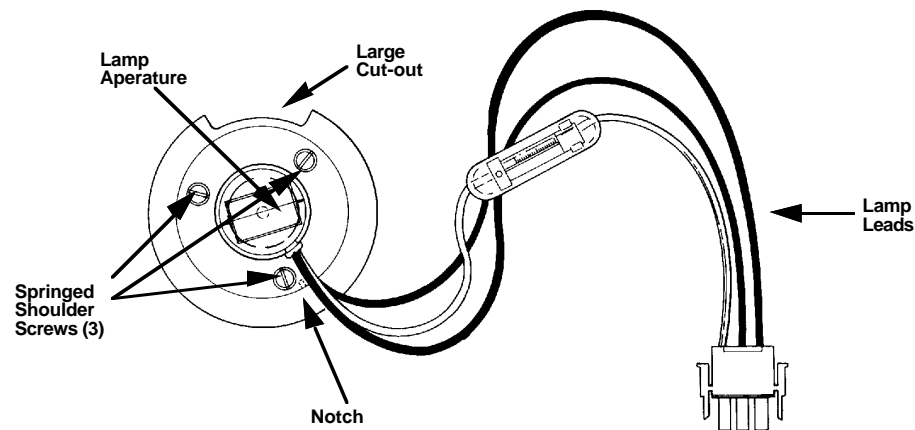

Figure 5-15 Aligning the Lamp (top view)
1. Position the lamp housing on a flat surface so the large cut-out on the adjustment plate faces away from you (Figure 5-15).
Figure 5-15 illustrates the lamp alignment procedure.